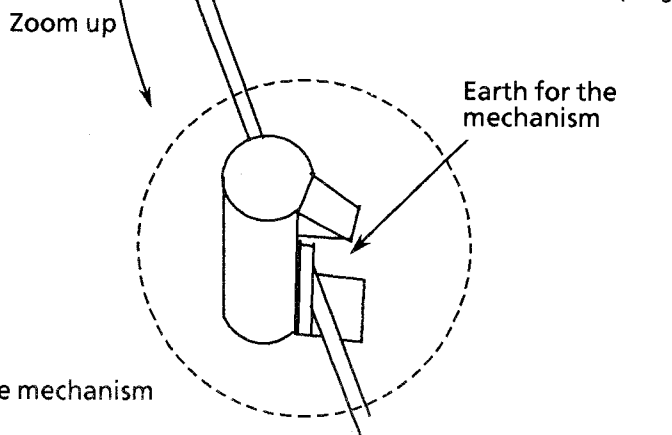

Figure 10 Front view of the cassette mechanism
2. Unsolder the flexible wire on the relay PCB, and remove the 2 screws fixing the head assembly (Figure 10).
1. Release the pinch roller return spring from the hook (Figure 10).
3. Remove the FR arm assembly (Figure 10).
4. Remove the screws ① fixing the motor.